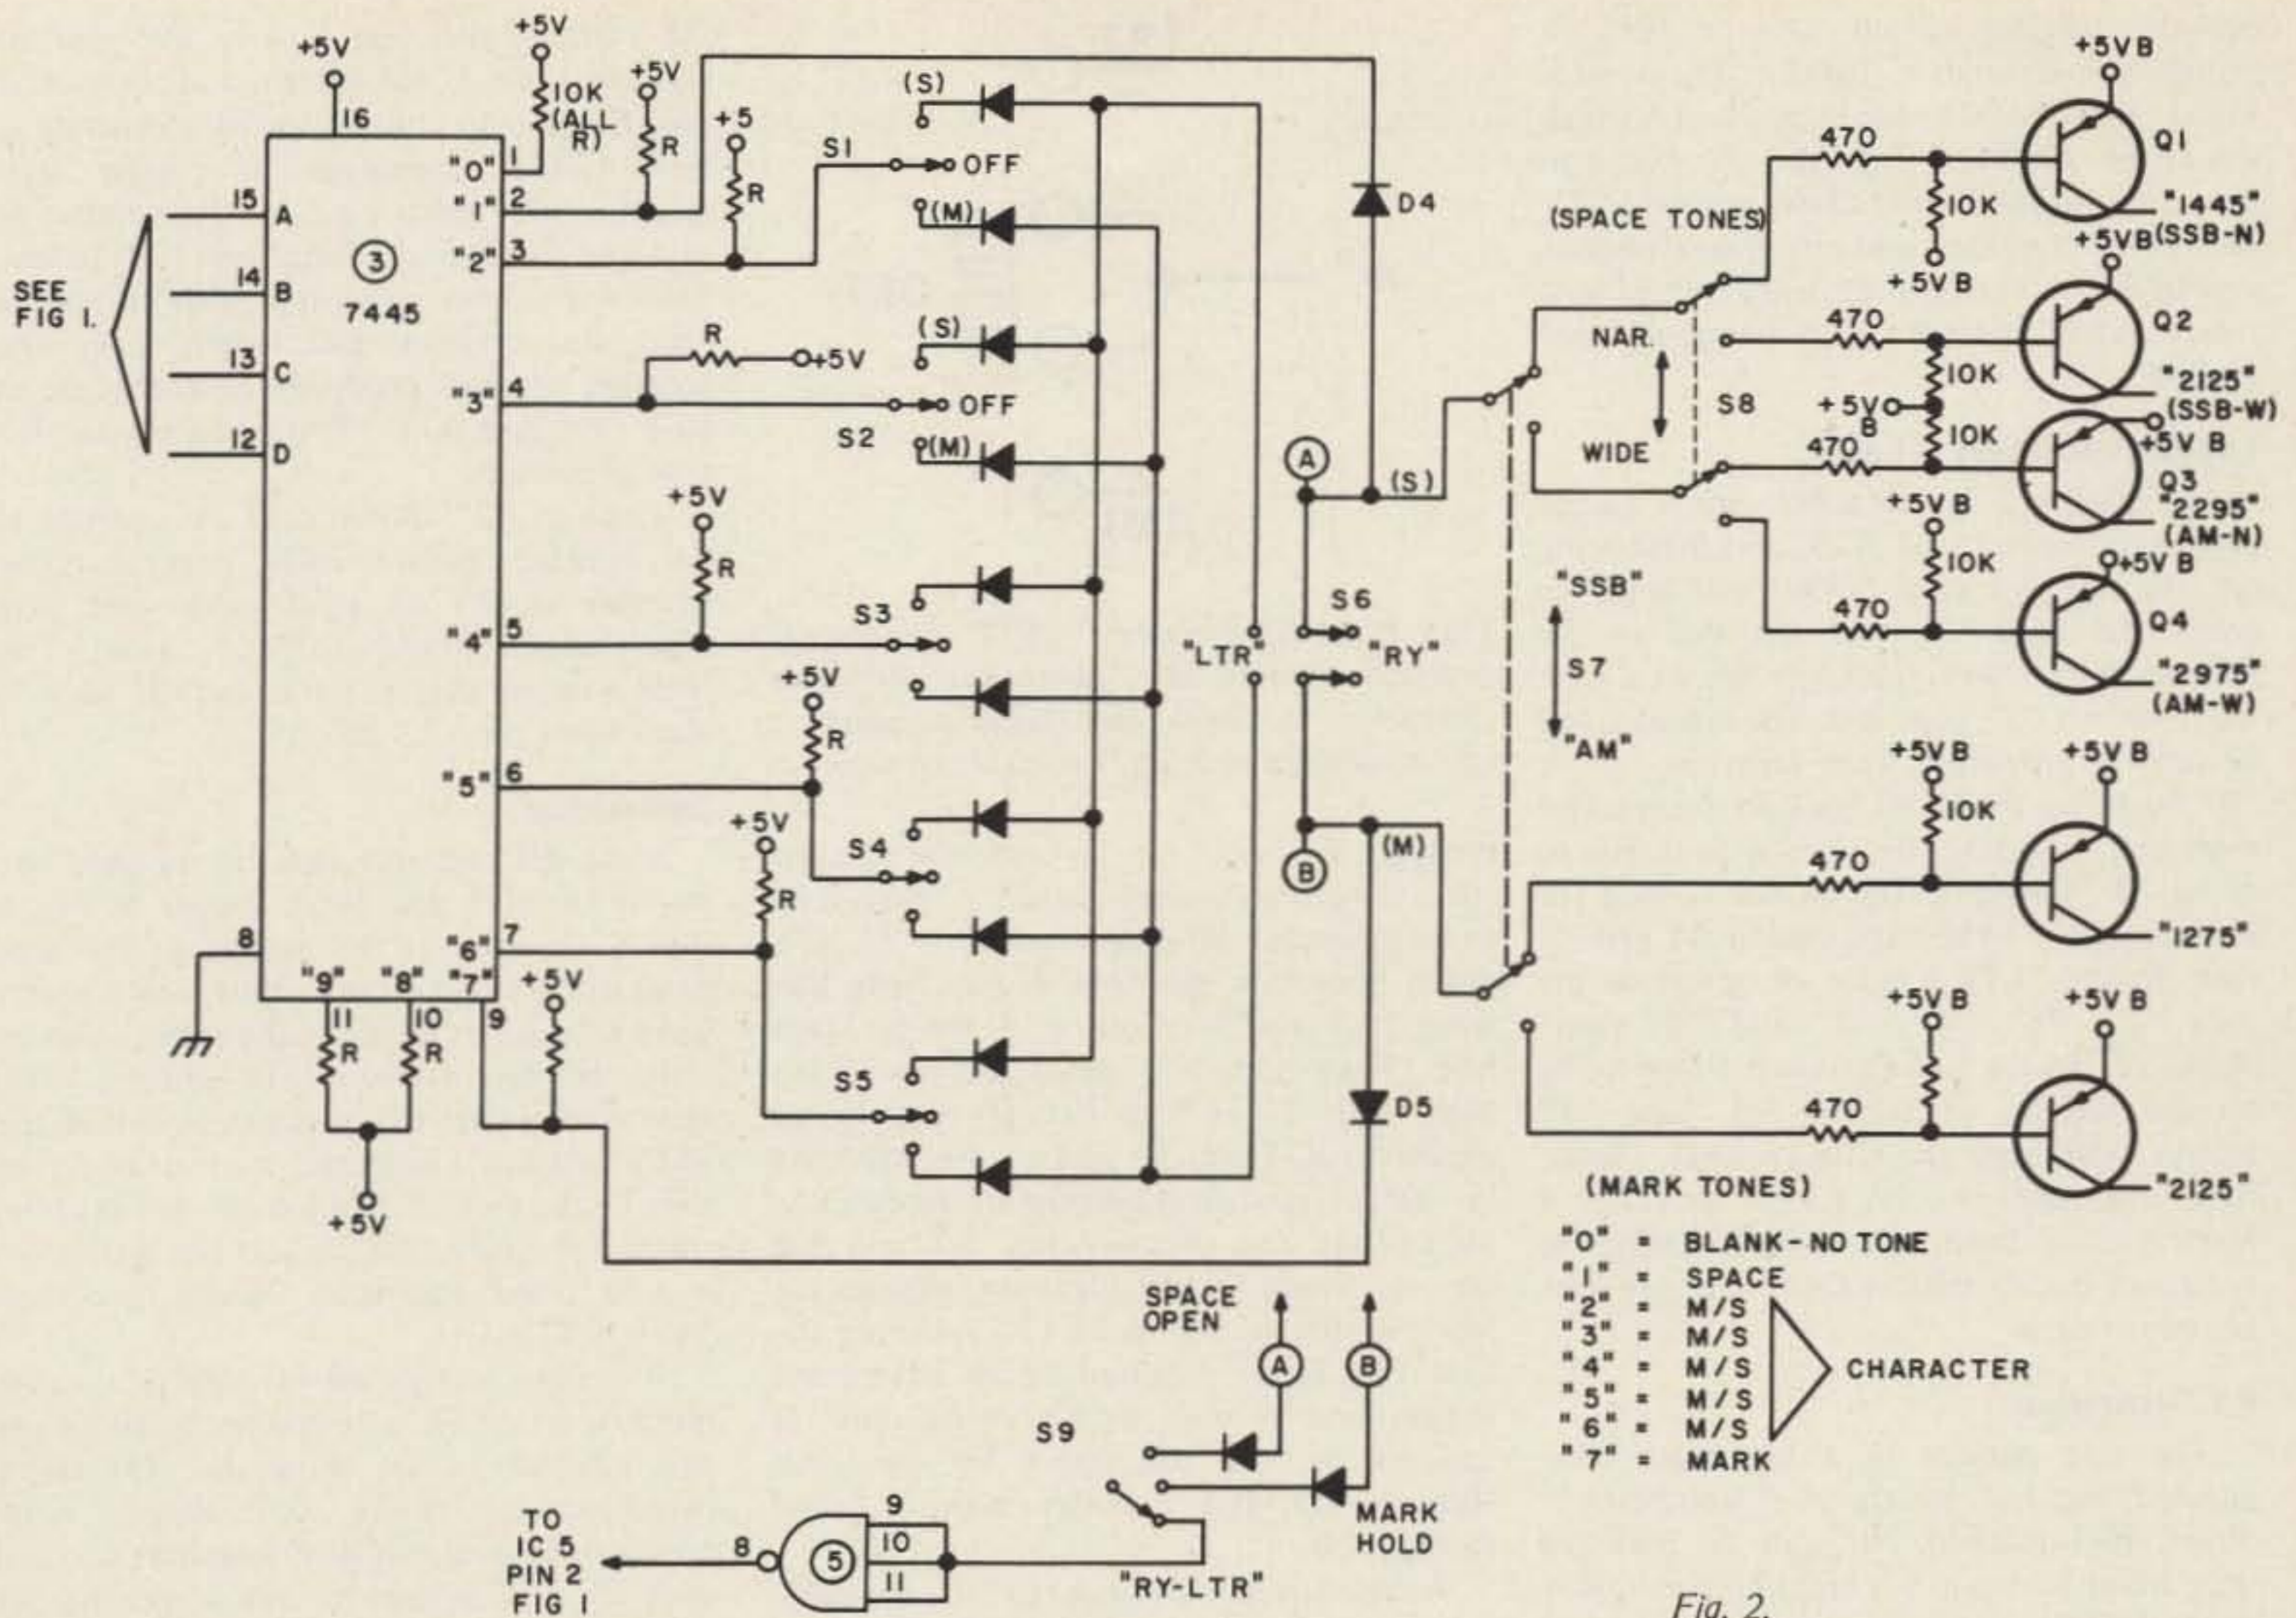

Fig. 2.
A few words on switching are in order at this point. Switches added for the automatic character sending are: (1) S-1 to S-5, which are 3 position slide switches used to set up a character of your choice, to check out the TTY machine or one of the "SELCAL" type decoders if you are building such an item. Fig. 3 shows the actual slide switch form instead of functionally as in Fig. 2. (2) Switch S-6 is used to choose whether a "letter or figure" is sent or the "RY" pattern. (3) Switch S-7 is a DPDT unit marked "SSB-AM." What is really meant is whether the newer-lower tones that will pass through an SSB receiver filter are sent, or the older-higher audio tones used on AM type operation are chosen. (4) Switch S-8 chooses whether the older shift standard of 850 Hz wide (W) shift is sent, or the newer shift of 170 Hz narrow (N) is the result.